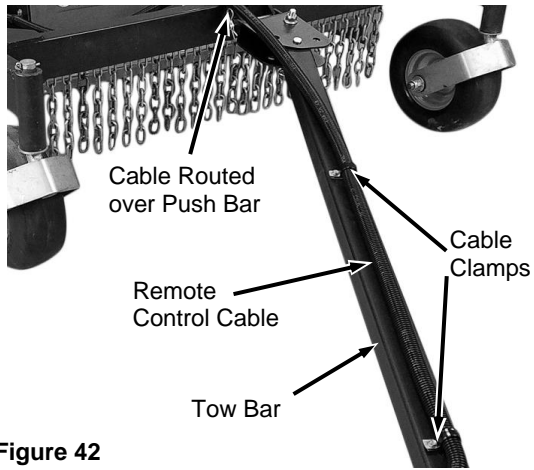

Figure 42
1. Remove Screws securing Cable Clamps and Remote Control Cable to the Tow Bar using a 5/16 in Socket w/Ratchet (**Figure 42**).